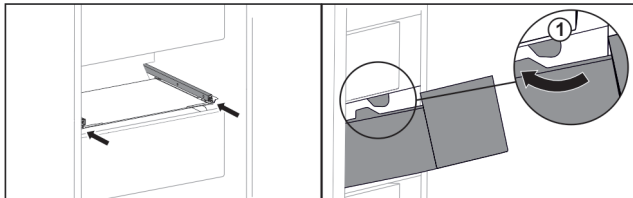

*Fig. 99*
- ▶ Lift drawer from below. *Fig. 99 (1)*
- ▶ Remove drawer to the front. *Fig. 99 (2)*